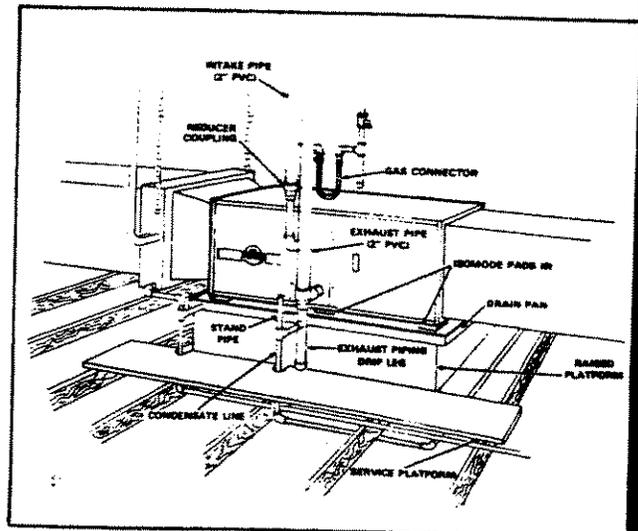

FIGURE 9
- 3 - Set unit in drain pan, using six Isomode pads (provided) as shown in figure 9. Unit must be level to ensure proper coil drainage.